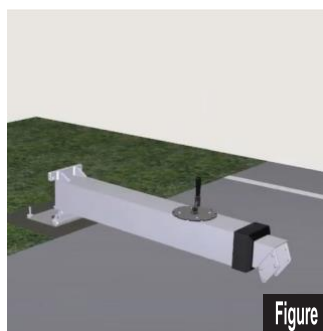

Figure 4
- STEP 5:** Continue filling hole with concrete until nearly full. Replace the frame and fill with cement until it is level with the playing surface. See Figure 4.
- Lay the Base Pole onto the court by using the pivot on the front. See Figure 4.